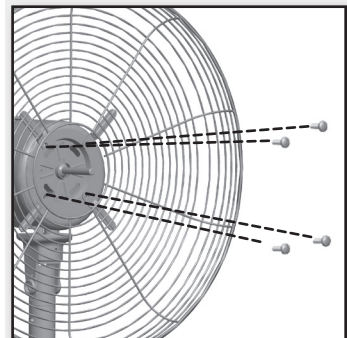

Figure 13
3. To attach the rear grill to the motor housing partially install the four grill mounting screws. Tighten all four screws. Figure 13.